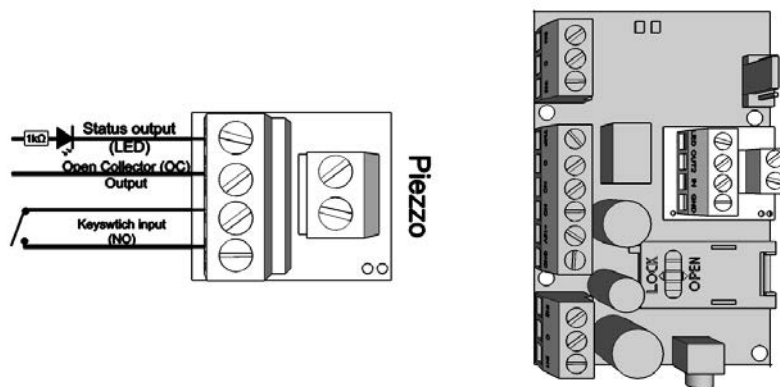

Figure 7. Alarm center expansion card wiring diagram
- The expansion panel connects to the slot next to the programmer port according to the position on figure 7.